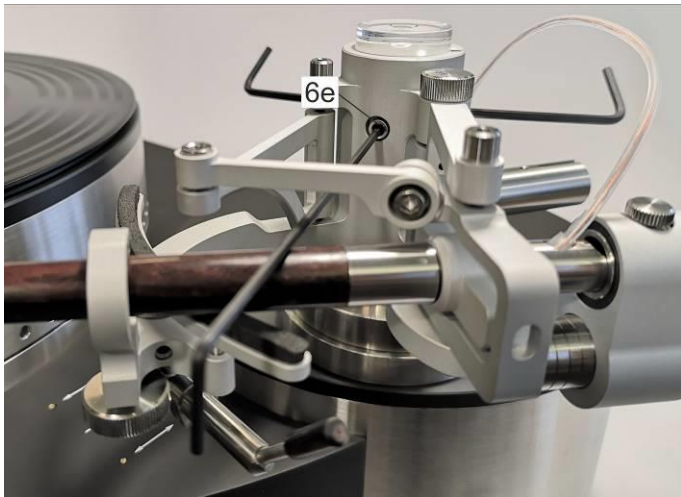
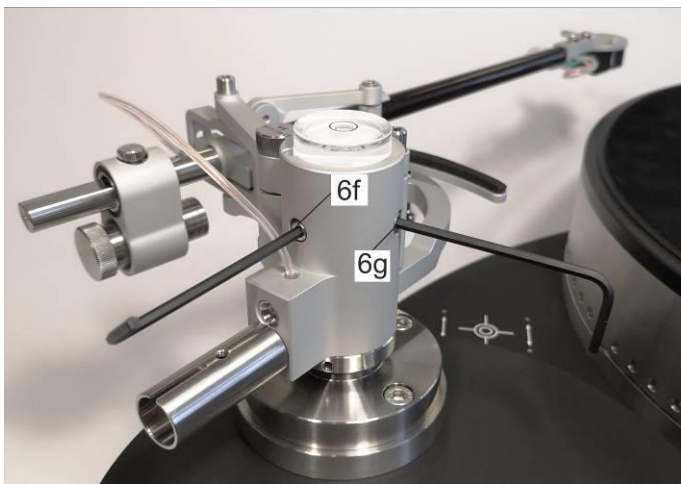

Figure 21
Figure 22
- a) To adjust tonearm horizontality you have to screw in or out tonearm horizontality screws [6e], [6f] and [6g] (*Figure 21* and *Figure 22*) with hex (allen) key.
c) When tonearm horizontality is adjusted all tonearm horizontality screws [6e], [6f] and [6g] must be fixed (*Figure 21* and *Figure 22*).